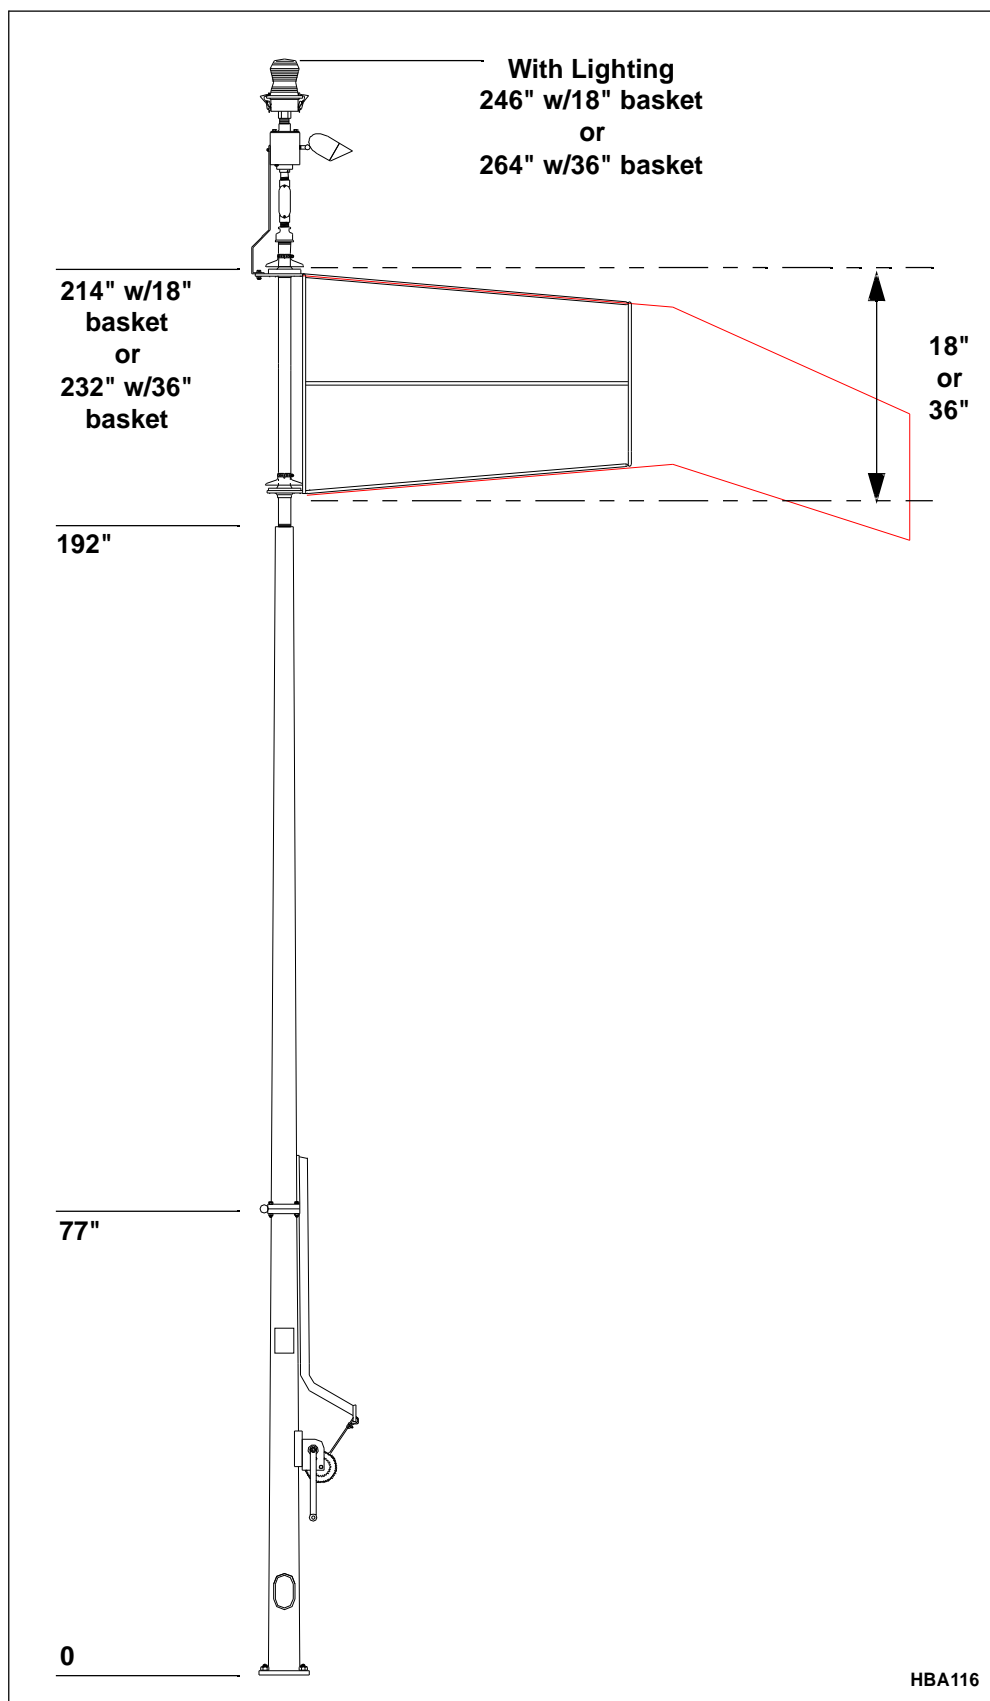

Figure 1. L-807 Dimensions
- b. Type L-807 and L-807(L): see Figure 1